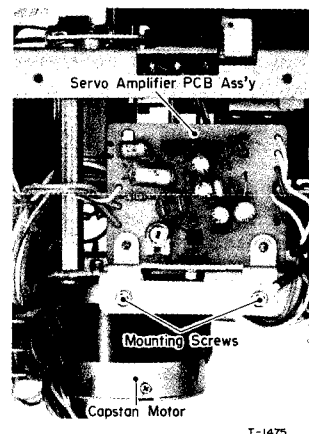

Fig. 5-8 Servo ampli. PCB ass'y location
1. Remove the servo amplifier PC board ass'y by unscrewing the two screws shown in Fig. 5-8 for later adjustment.